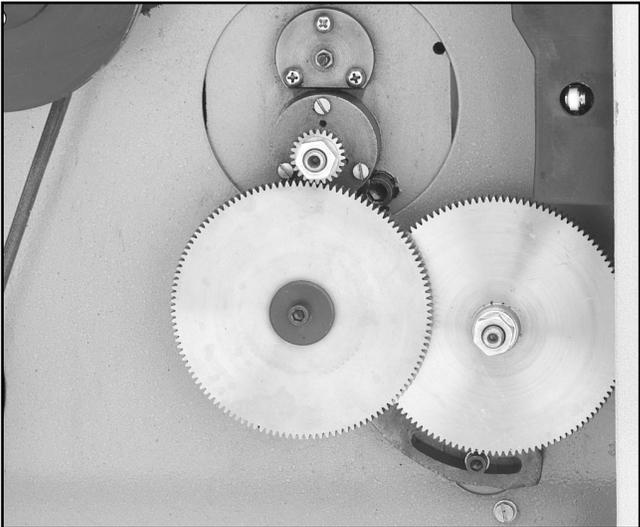

Figure 43. Gears aligned and in mesh.
- 8. Rotate the support arm until gears B and A are in mesh. Tighten the cap screw at the bottom of the gear support arm. **Figure 43** shows the gears properly aligned and in mesh.